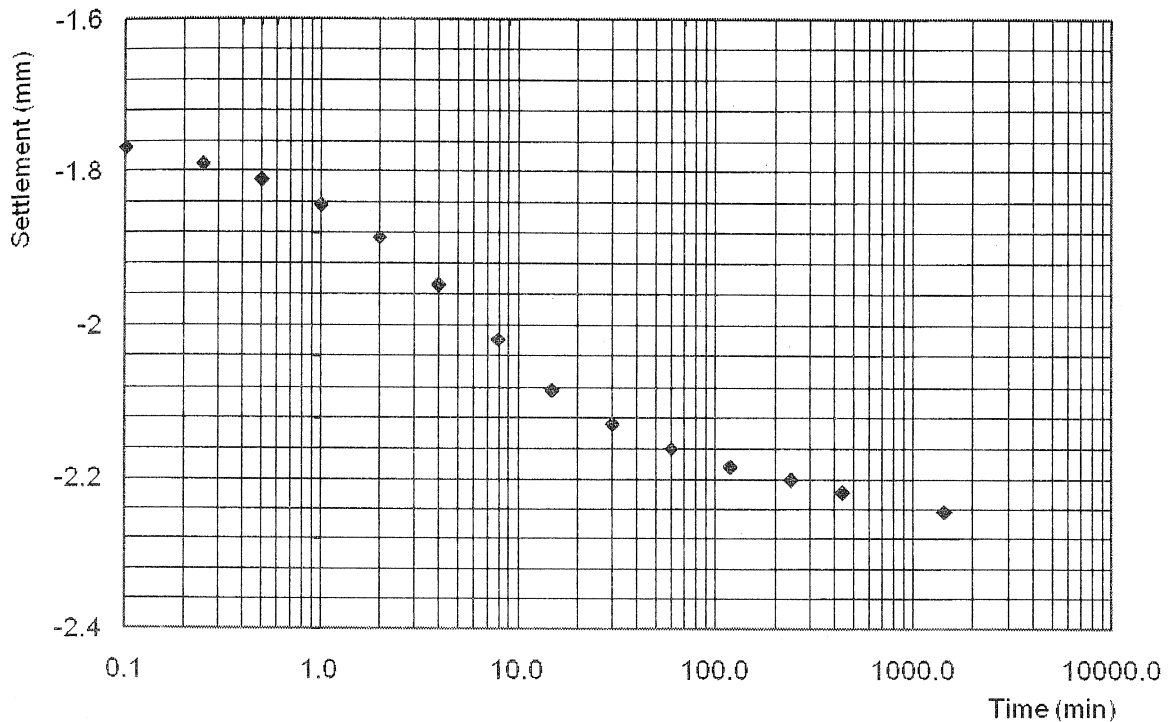

Figure Q4
Question 4: Figure Q4
4. Figure Q4 shows a data plot for a Normally Consolidated Kaolin Soil, which is subjected to a 1kg load.